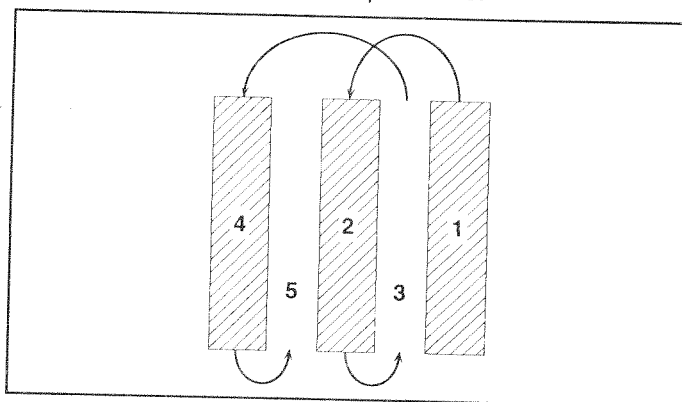

FIG. 14
- For easier handling of your tiller, leave about 8 inches of untilled soil between the first and second tilling passes. The third pass will be between the first and second (See Fig. 14).